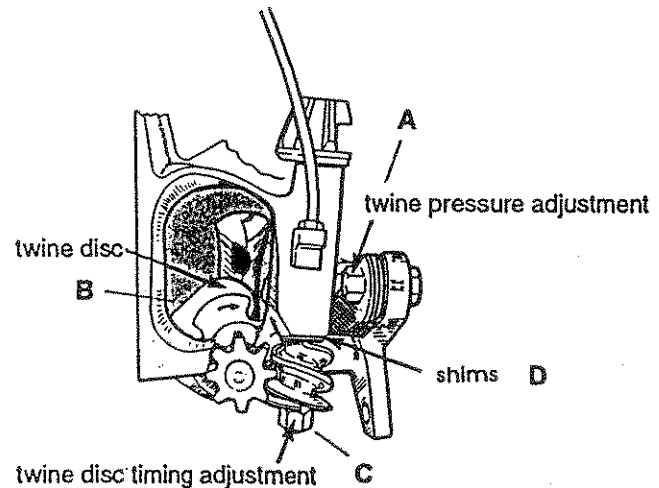

Fig. 28
The twine holder holds the twine in the twine disc while the bale is being made and tied. The pressure is regulated by bolt (A), see Fig. 28.
2. Adjust the twine disc notch so the left hand side of the notch is even with the cleaner (B), see Fig. 28. Do this by loosening nut (C) several turns. Tap the nut end of the shaft to loosen the worm.
3. After the disc is set, turn the worm against the spacer washers (D), see Fig. 28, and tighten the nut.